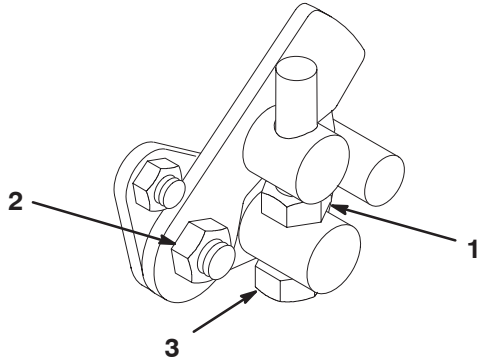

Figure 52
1. Loosen the jam nut on the trunnion capscrew (Fig. 52).
4. Tighten the jam nut on the trunnion capscrew and the nut on the pedal pivot to lock the adjustment (Fig. 52). Check the adjustment and adjust as required.